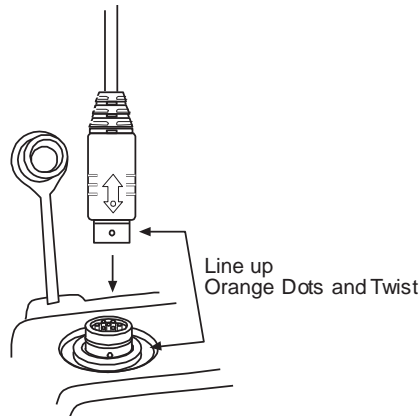

Figure 2: Push Back Cable Connection
- The U9920-GPB(EU) is designed for airport push back operations and can be connected to an aircraft intercom system. Once connected, up to four belt station [U9910-BSW(EU)] or [U9912-BSW(EU)] users can communicate to the pilot of the aircraft by pressing the PTT button on the belt station. A Push Back Cable is required between the U9920-GPB(EU) and the aircraft (see below: **Figure 2** – connection illustration, and **Table 2** – Push Back Cable matrix.)